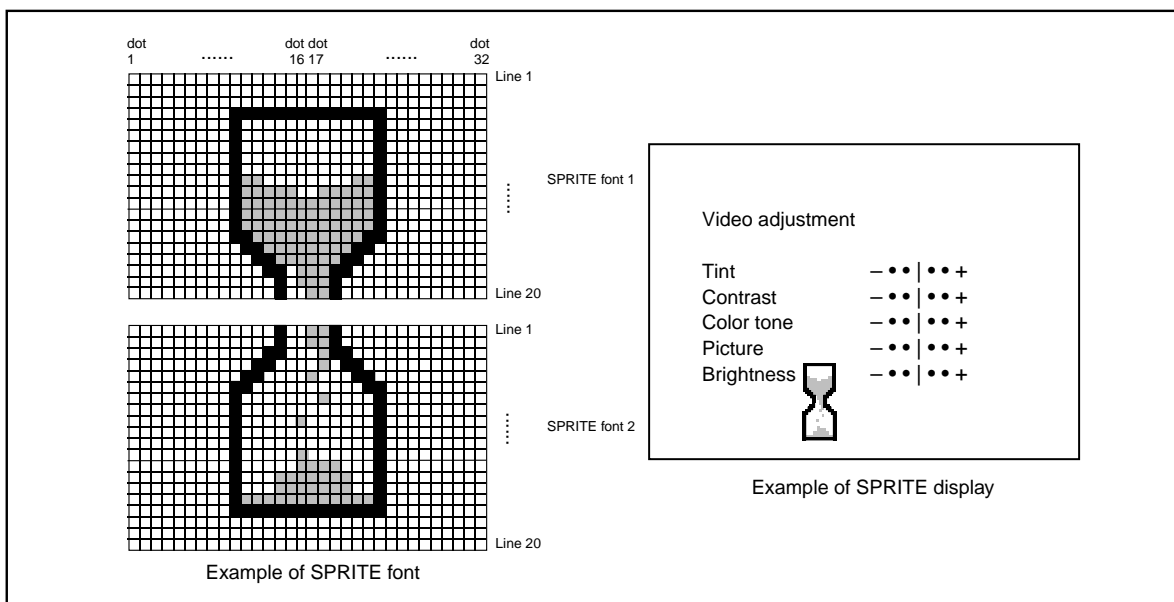

Figure 2.16.41 SPRITE OSD display example
Notes 1: An OSD1 interrupt does not occur at the end of display when the block is not displayed. In other words, if a block is set to off display by the display control bit of the block control register i (addresses 0210₁₆ to 021F₁₆), an OSD1 interrupt request does not occur (refer to Figure 2.16.41 (A)).